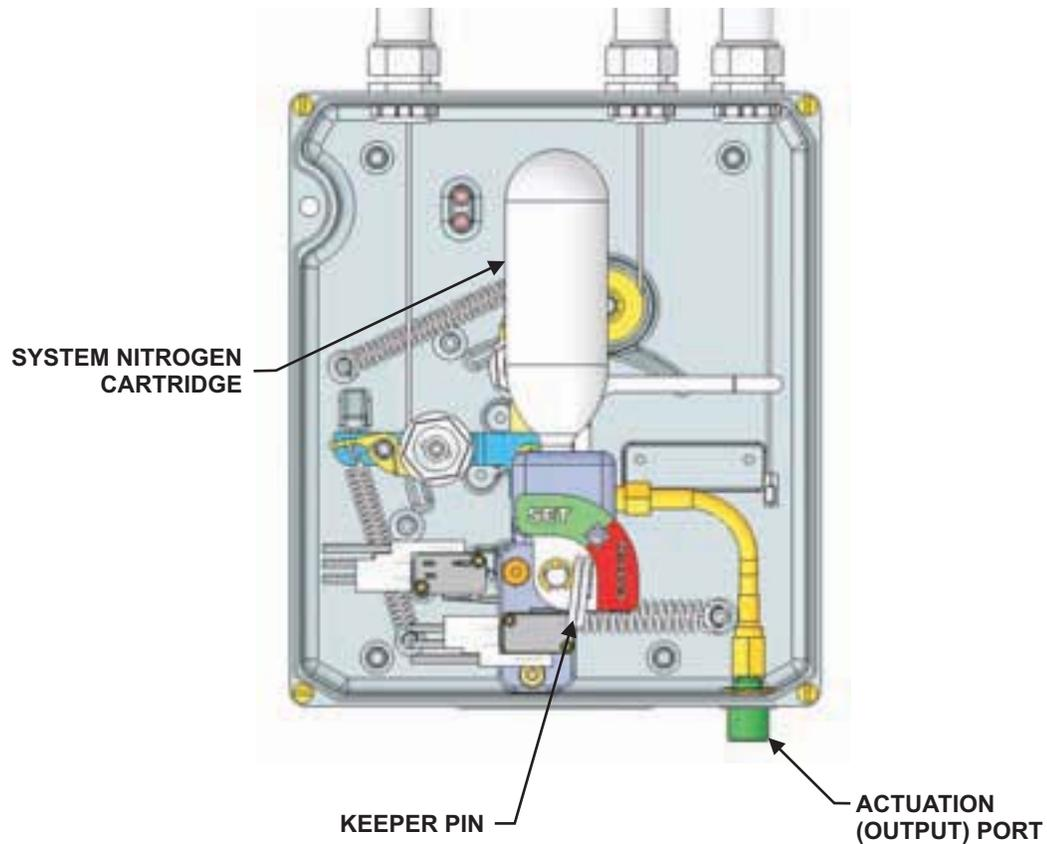

Figure 5-2. UCH Control System, Internal View
3. Remove the cover from the UCH Control System. Install Keeper Pin. See Figure 5-2 for Keeper Pin location.
4. Remove the System Nitrogen Cartridge (P/N 87-120043-001). Refer to Figure 5-2 for location in UCH Control System.
6. Verify installation of the lockout screws for appropriate usage (refer to Figure 5-2).